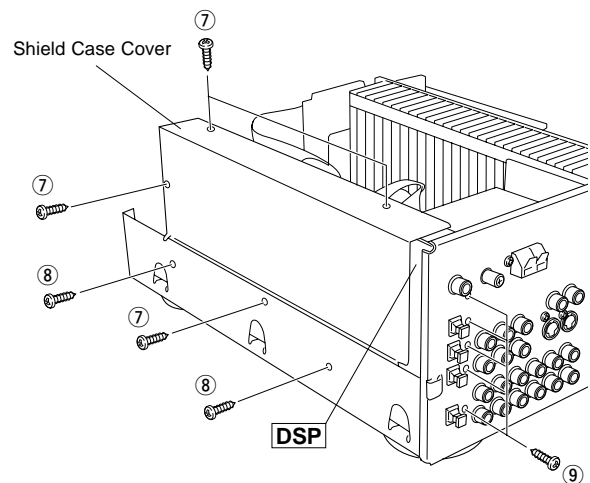

Fig.3
- Remove 4 screws (⑦) and then remove the Shield Case Cover in Fig. 3.
- Remove 7 screws (⑧ and ⑨) and then remove the DSP P.C.B. in Fig. 3.